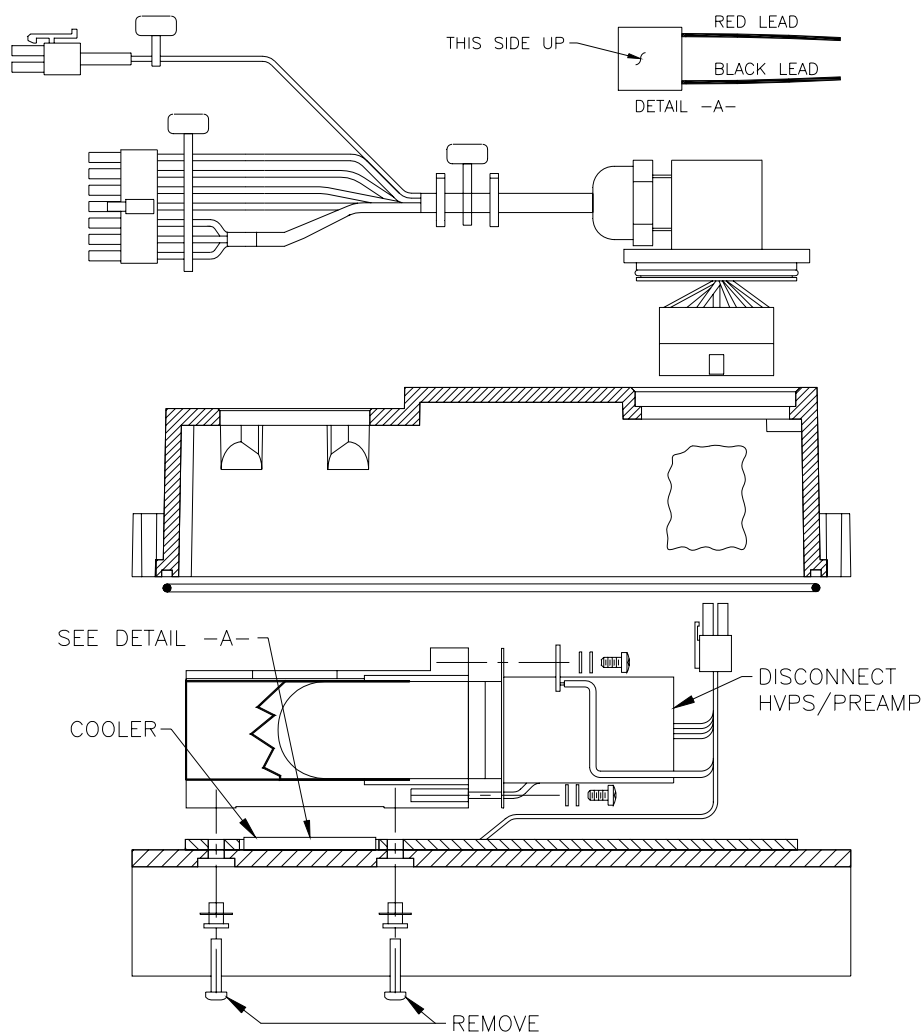

Figure 11. Cooler Replacement
5. Disconnect the HVPS/preamp from the PMT and remove the PMT from its housing. Refer to Figure 11.
6. From the underside of the heatsink, remove the two screws that secure the PMT cold block to the heatsink and remove the cold block. Refer to Figure 11.